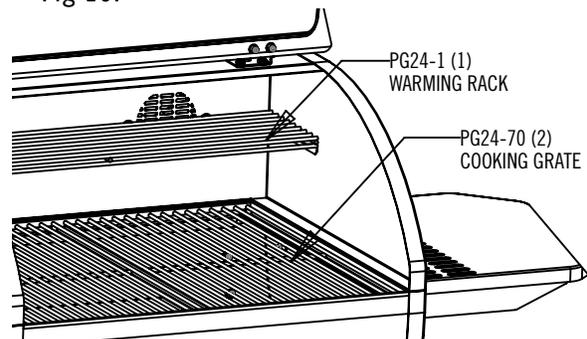

FIG. 10
1. Install the Warming Rack and Cooking Grate as shown in Fig 10.